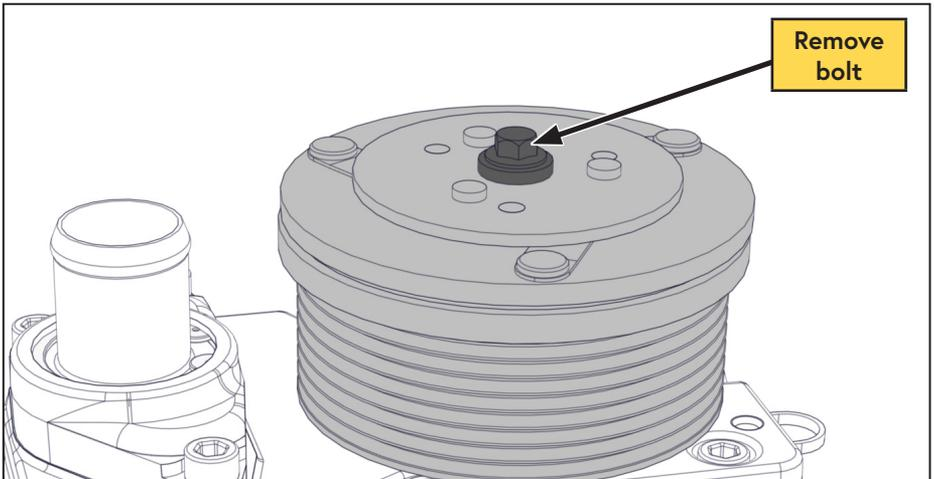

Figure 2 — Remove clutch bolt
- Remove the bolt from the clutch armature (Figure 2).